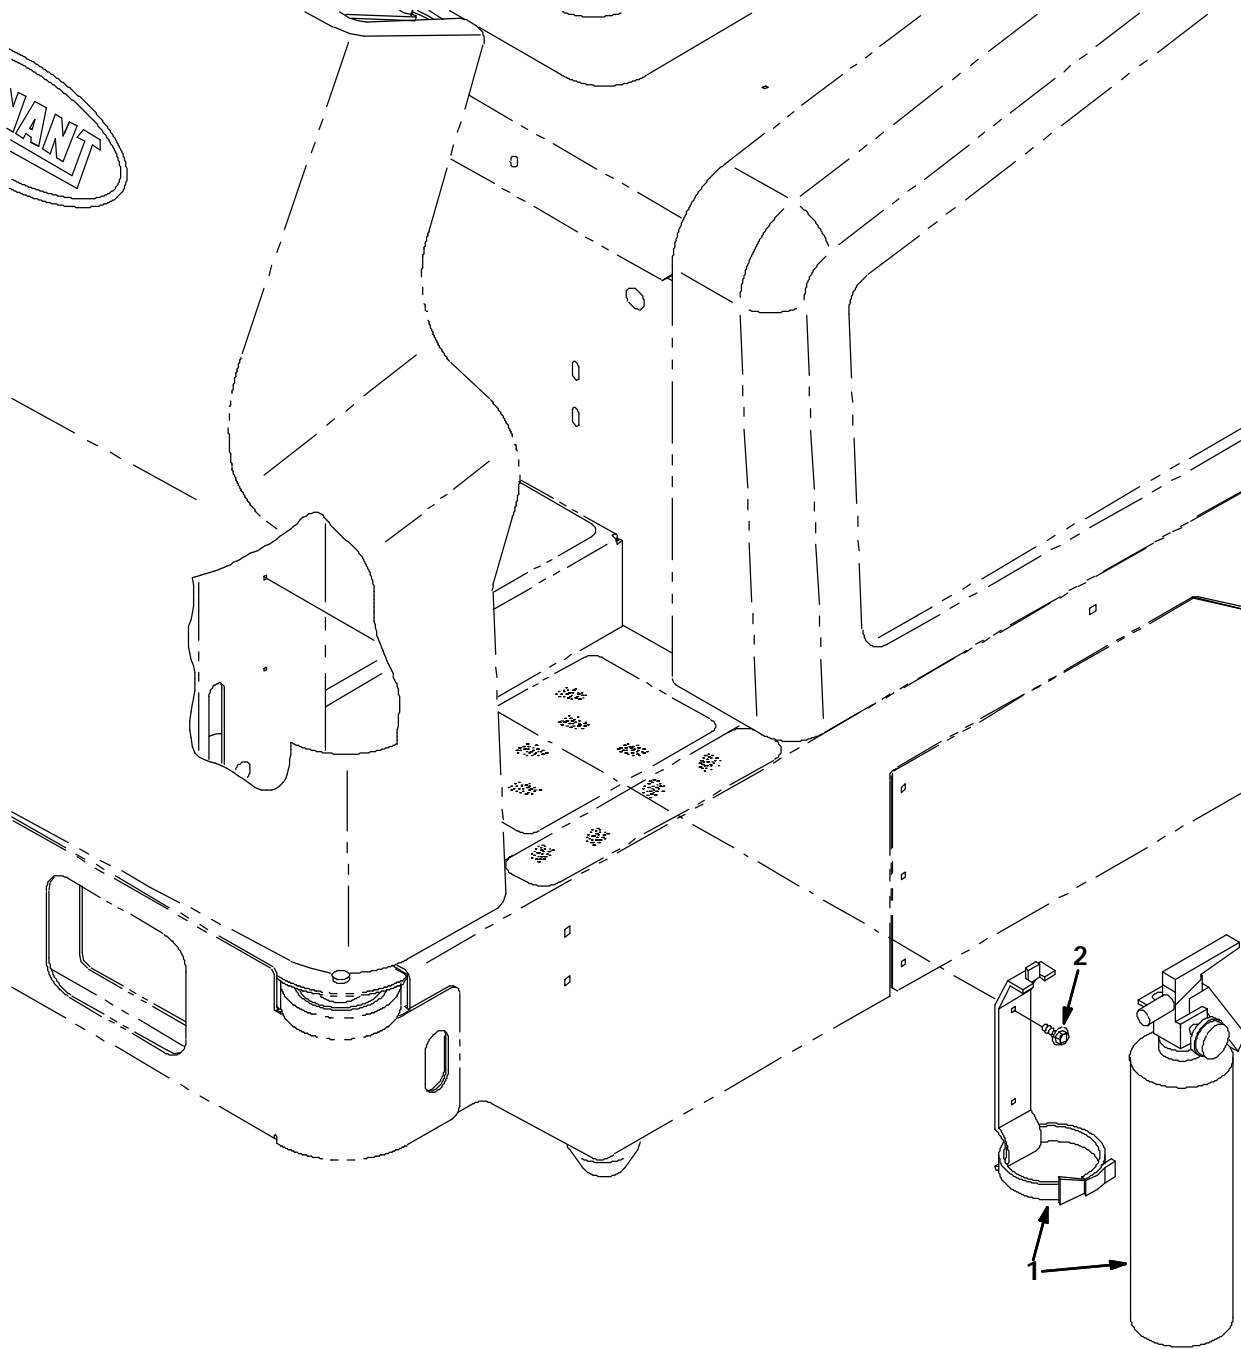

FIG. 1 - FIRE EXTINGUISHER KIT INSTALLATION
(Refer to FIG. 1)
1. Mount the fire extinguisher bracket (1), with two hex screws (2), on the left side of the steering channel. (Refer to FIG. 1)